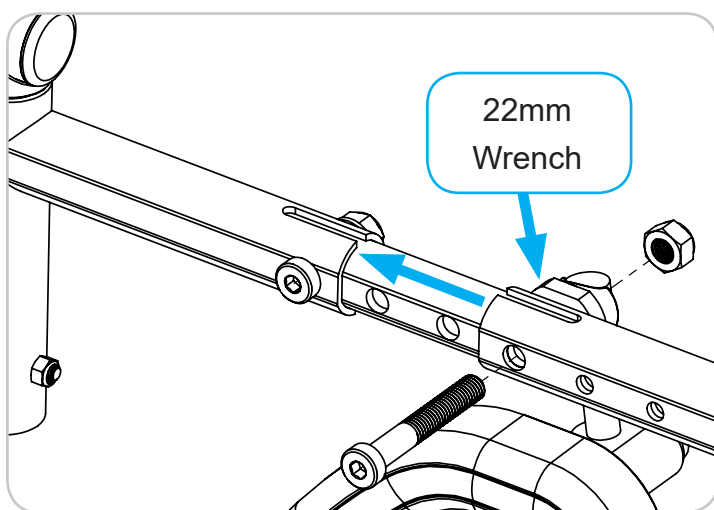

Figure 21
6. If seat depth needs to be longer than this adjustment allows, remove fasteners show in Figure 21. A 22mm wrench can be used to hold the nut on the inside of the tube.